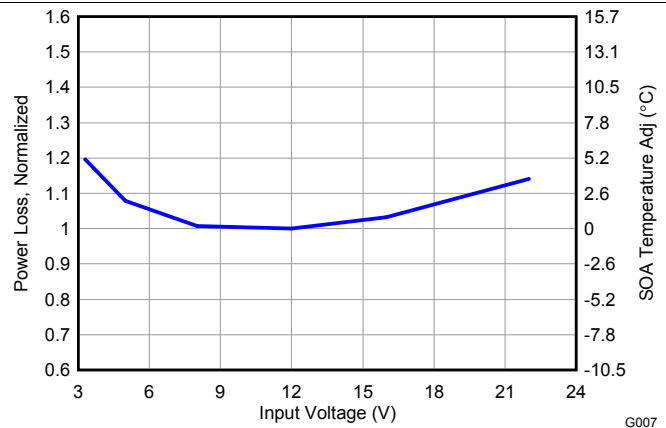

Figure 7. Normalized Power Loss vs Input Voltage
- Normalized Power Loss for input voltage ≈ 1.0 (Figure 7)